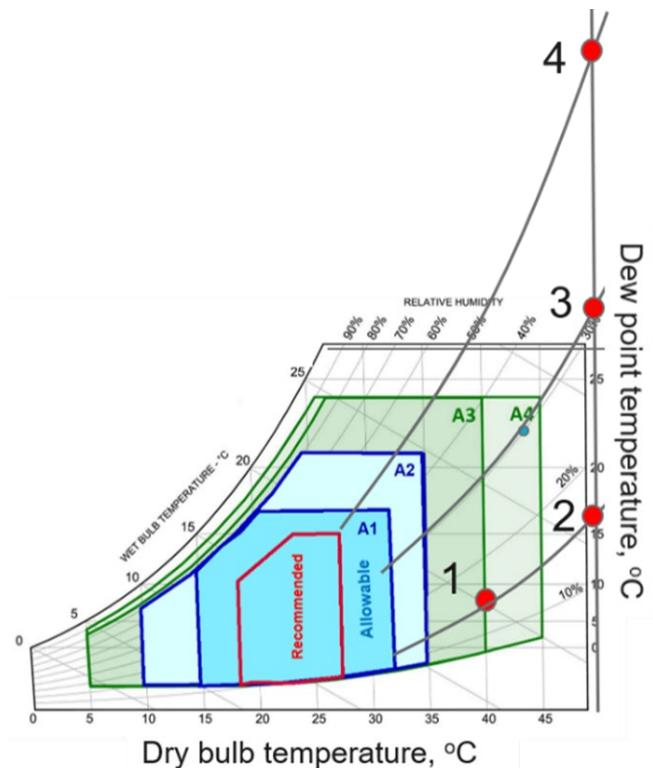

Figure 3: Psychrometric chart showing the four temperature-humidity test conditions.
Four tests were run with the chamber under the conditions shown on the psychometric chart of Figure 3: (1) 15% relative humidity, 40°C; (2) 15% relative humidity, 50°C; (3) 31% relative humidity, 50°C; and (4) 75% relative humidity, 50°C. As mentioned earlier, the humidity was maintained using saturated salt solutions. The durations of various electrical and temperature conditions are listed in Table 1.